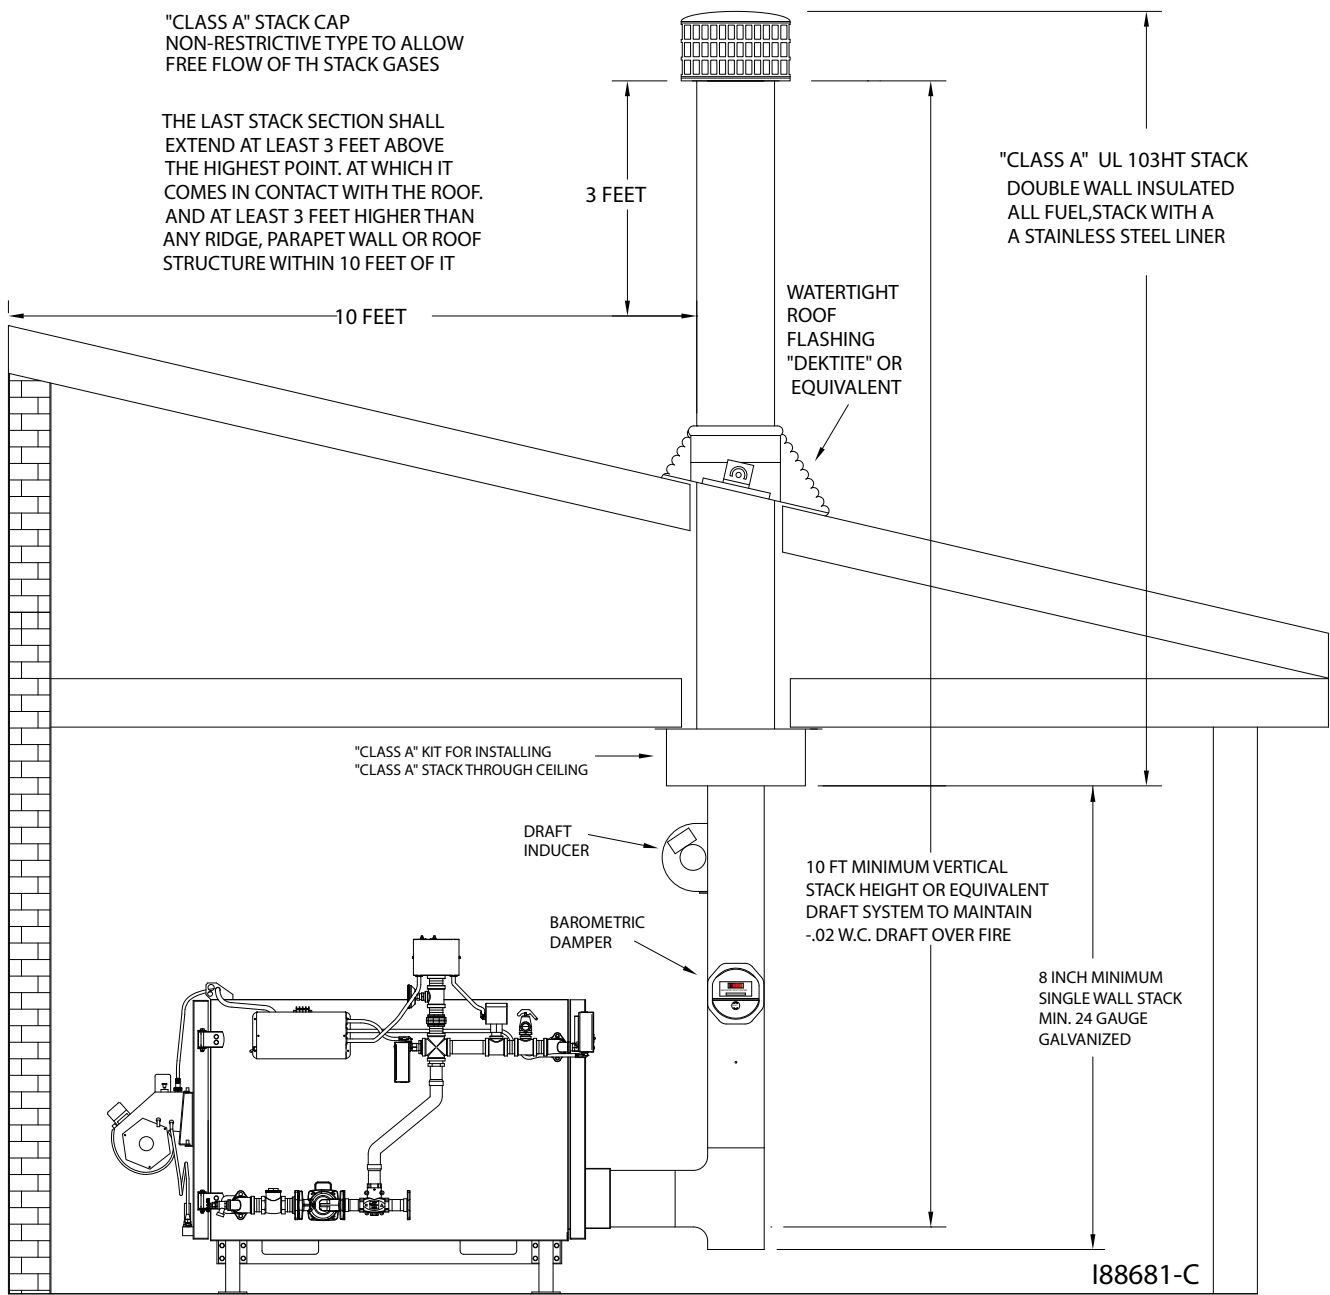
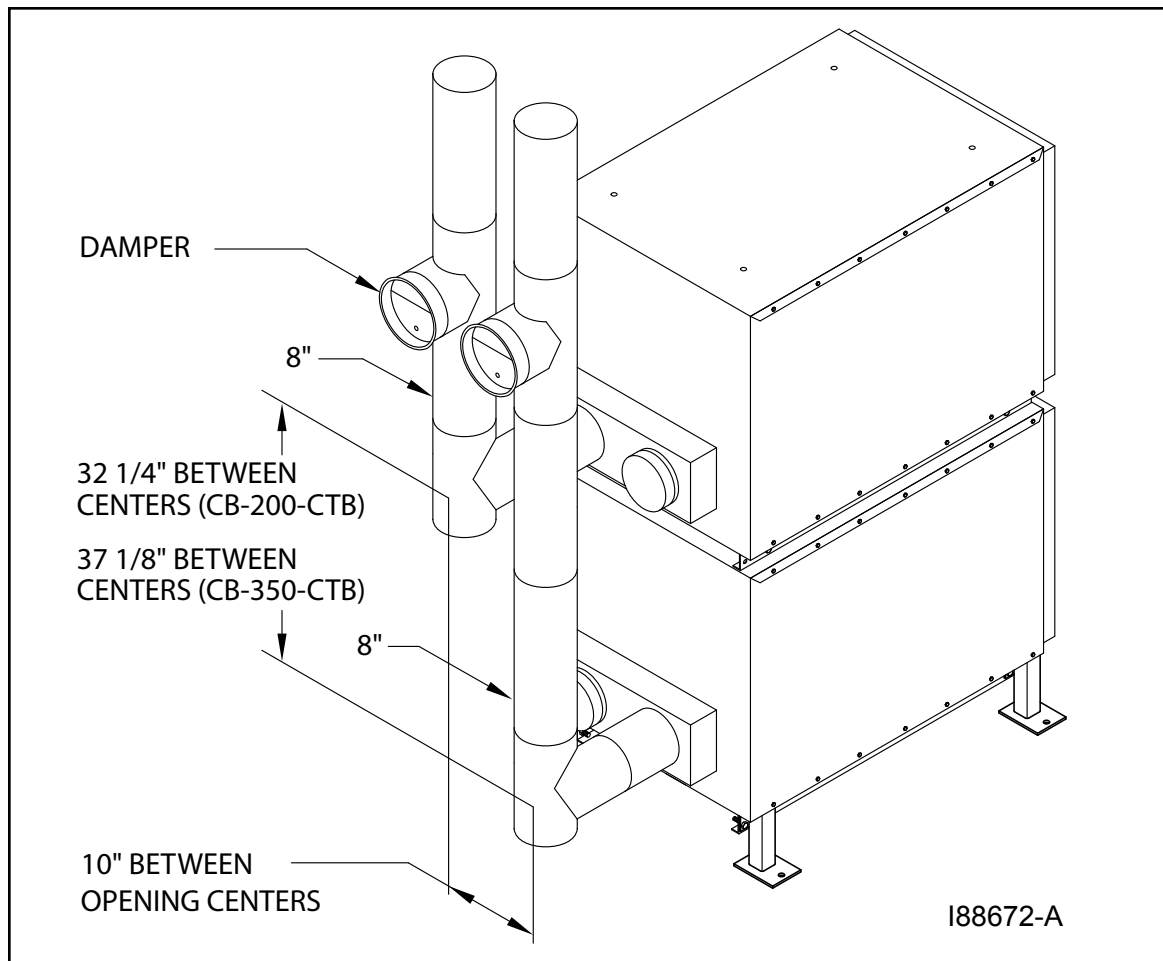

Figure 4I - Installation of "Class A" Stack Through Roof/Ceiling (Single Boiler)
Figure 4J - Detail of Dual-Stacked Boiler Stack Installation
Figure 4I illustrates the through-the-ceiling stack design for a single boiler; this stack design is preferable and is more commonly used. Refer to Figure 4J for the dual-stacked boiler stack design.
1. Refer to Figure 4I as needed.
1. Refer to Figure 4I as needed. Your stack cap should be classified as: Class A/UL103 HT non-restrictive, all-fuel type.